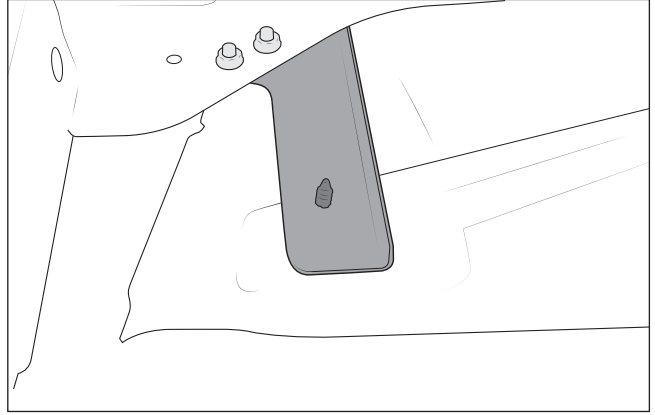

Figure 29
6. Driver side: Install bracket as shown using supplied hardware. Use hole in bracket to align drill bit and drill $\frac{1}{4}$ " hole through wheel liner. Insert Christmas tree fastener through wheel liner side and through metal bracket to retain liner (fig. 29).